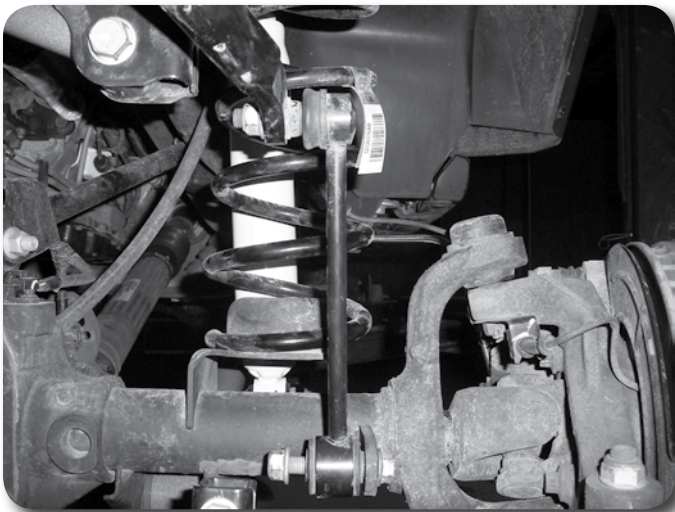

Figure 3
16. Go to the rear of the vehicle and remove the rear sway bar links from the axle and sway bar. Save lower hardware for the rear link installation. Install the factory rear sway bar links to the inside face of the front axle mount tab with the original front link hardware. Attach the ball joint end of the link to the outside face of the sway bar with the original nut (Figure 3). Torque upper and lower link hardware to 55 ft-lbs.